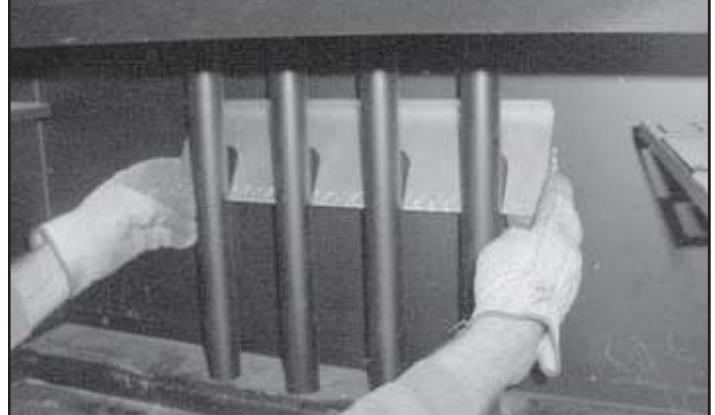

Figure 8 Center Tube Support into Place
- Place center tube support behind tubes at an angle. See Figure 8. Rotate front edge up.